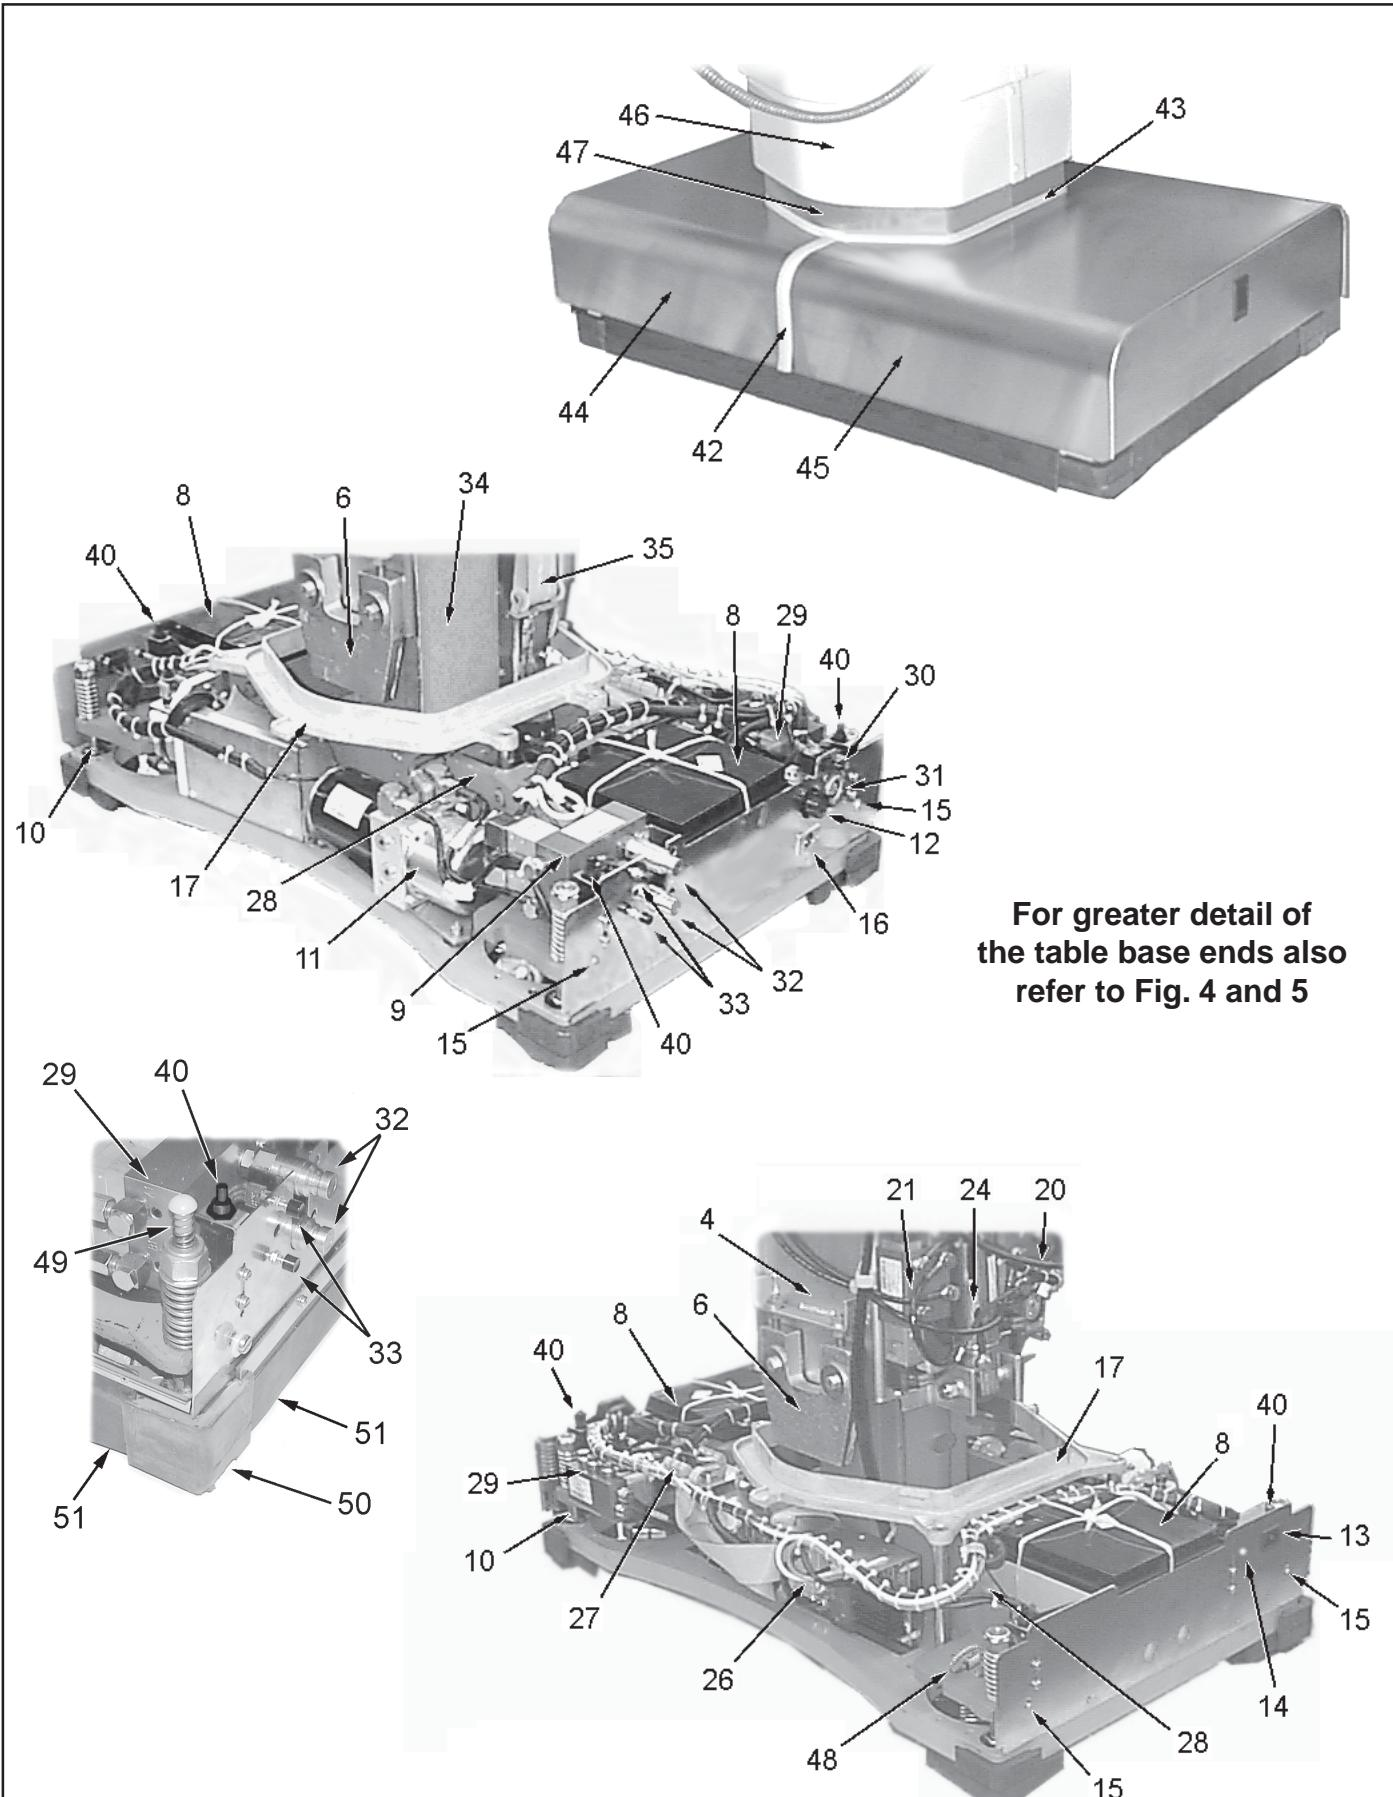

Fig. 2 RX500 Operation Table : Base details, covers on and off
5. DESCRIPTION**Key to Figs 2 and 3**